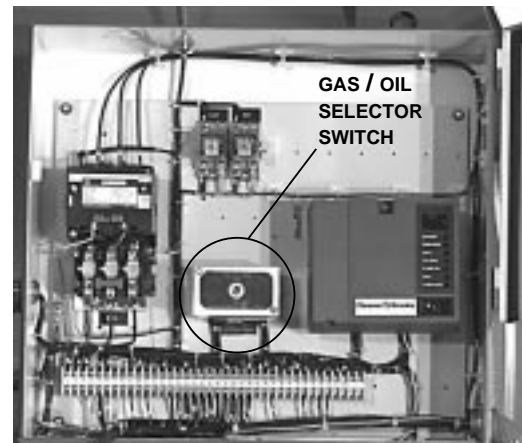

Figure: 2-23 Standard Control Panel
(1) Gas-Oil Switch (Figure 2-23): Burners equipped to burn either oil or gas include equipment for each fuel. The selector switch engages the appropriate interlocks and controls for gas or oil operation. Chapter 4 details the required mechanical functions of each fuel system.